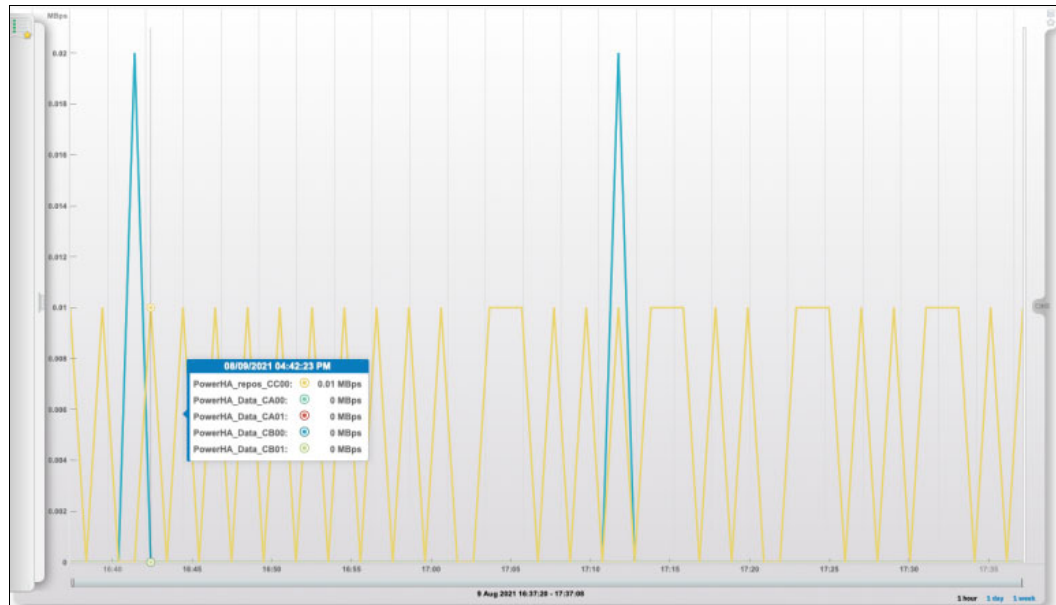

Figure 9-127 Volume performance graph
4. Draw the graph. Figure 9-127 shows the bandwidth graph for a set of five volumes.